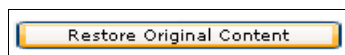

Figure 5-107 Restore Original Content button
6. In the Instance view, click the **Restore Original Content** button to reset the diagram (Figure 5-107).